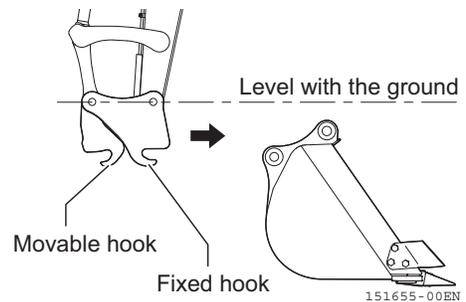

Fig. 3-89
5. Put the fixed hook onto the pin of the attachment on the arm side and set the quick coupler level with the ground as illustrated in Fig. 3-89.